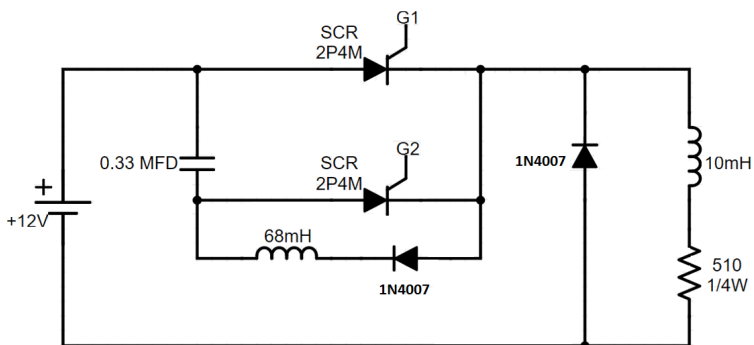

Figure 21
1. Connect the circuit as shown in Figure 21